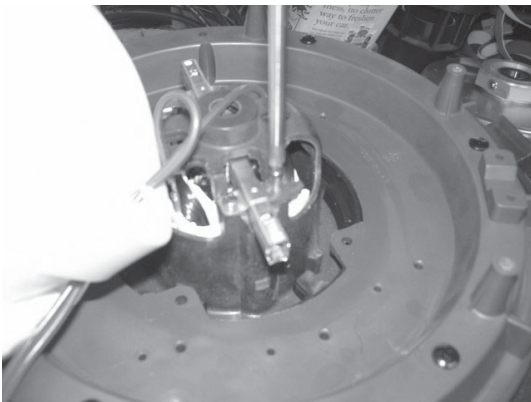

Figure 1
This machine uses a 120 volt AC 60 cycle electrical circuit. Make sure you have the correct frequency and voltage before connecting the power cord to an outlet. The machine has a plug as shown in Figure 1. If a receptacle connected to the electrical ground as shown in Figure 1 is not available, have one installed by an electrical contractor. **Do not use an adapter.**
4. Remove the carbon brush assembly by removing the 2 screws that attach it to the vac motor. See Figure 1